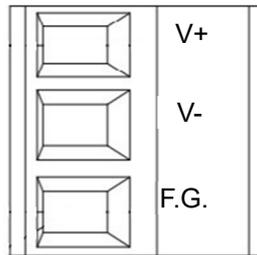

Figure 4.2 - 5.08mm 3-Pin Lockable Terminal Block
Figure 4.2 illustrates the lockable terminal block (TB) located on the top panel of the IO5202. This connector provides the power supply to the device from an AC/DC adaptor such as part no. US315-12. The V+ pin is the positive DC voltage and V- pin is the negative DC voltage. The F.G. pin refers to the field ground. Note that the F.G. pin is not the same as the chassis ground of the device. Electrical power supply rating for IO5202 is listed in Table 4.2.